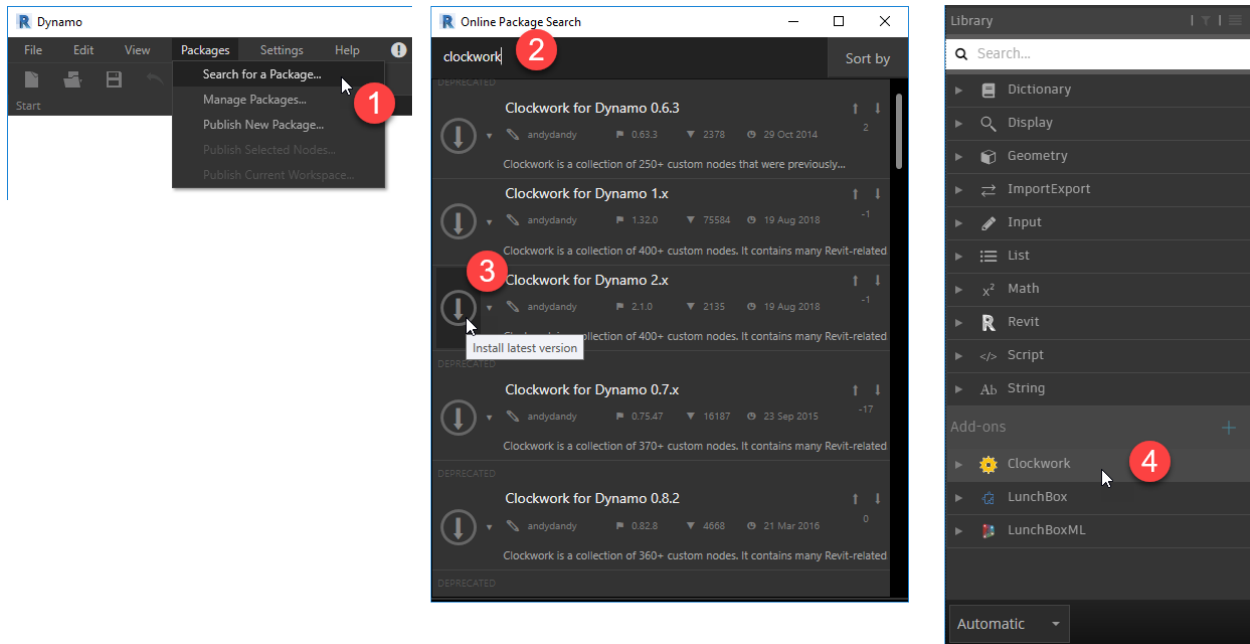

Figure 45
6. Launch Dynamo and then from the Packages menu and choose: **Search for a Package** (see the left side of Figure 45).
8. When Clockwork for Dynamo appears, locate Clockwork for Dynamo 2.x and then click the arrow icon on the left to download and install it (see the middle of Figure 45).
If you search for Lunchbox in the Package Manager, it does show up, but the install available does not properly install it for Dynamo 2.0.1. There is a note to this affect when you click on the Lunchbox item in Package Manager. This is why we installed it from the Provingground web page instead. Once installation is complete, you will see a new Add-ons branch in your library panel. It will show Clockwork and LunchBox (see the right side of Figure 45).